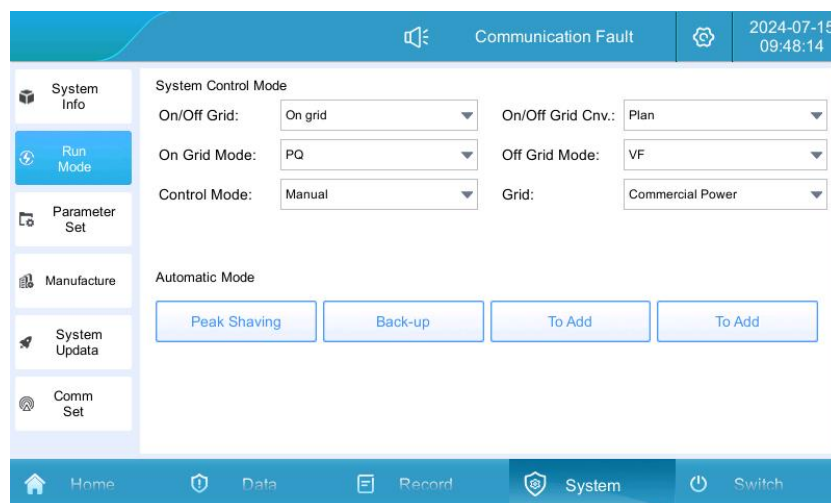

Figure 5.8 Grid-connected manual mode setting
1. Click "System" -> "Operation Mode" mode to enter Figure 5.8.